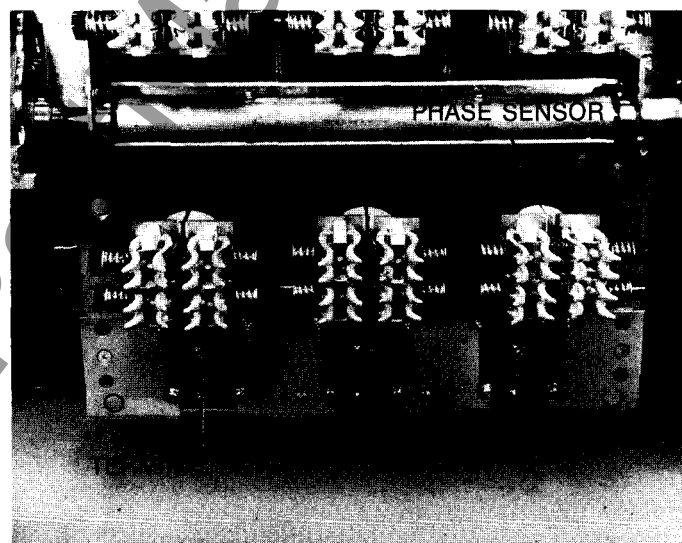

Fig. 3-5. MicroVersaTrip™ phase sensors installed
5. Install the MicroVersaTrip™ phase sensors as shown in Fig. 3-5. Engage the sensor's anti-turn lugs with the notches in the locking ring.
6. Install the new sensor terminal board. See Fig. 3-5.